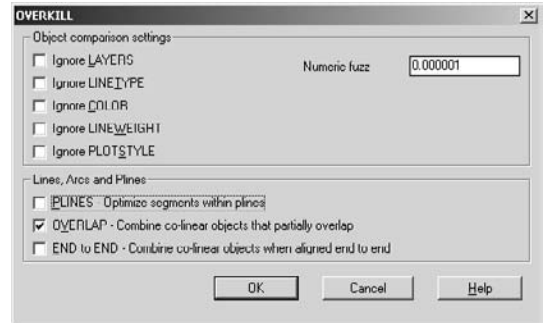

Figure 1.22
**OVERKILL** This command gets rid of overlapping lines, line segments that connect in what appears to be a single object, and duplicate objects on top of other objects. It can clean up a mess of a drawing in a hurry; see Figure 1.22.